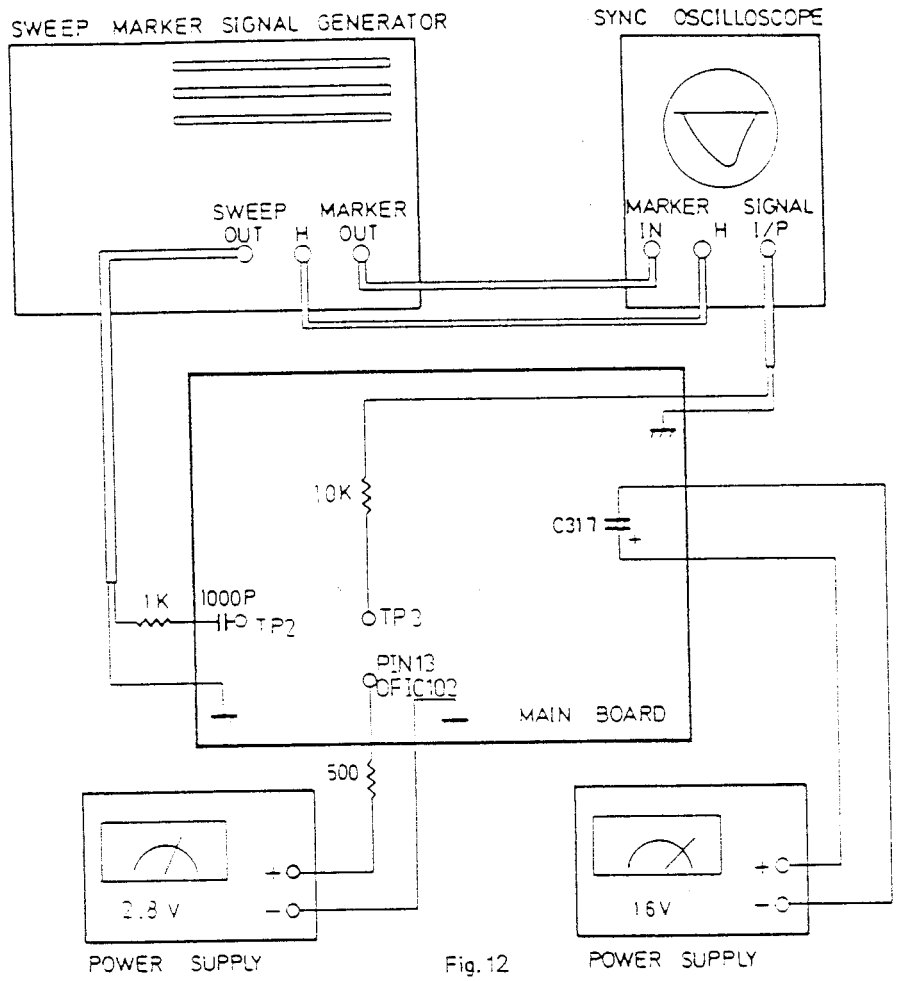
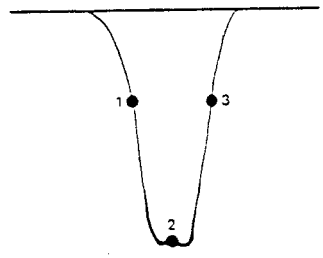

Fig.12
Fig.13 P.I.F. Response Curve
- (1) Connect the signal output of sweep/marker generator in series to TP2 (C131) through 1 Kohm resistor and 1000PF capacitor (see Fig. 12).
- (2) Connect the vertical input terminal of an sync. oscilloscope in series with a 10 Kohm resistor to TP3.
- (3) Apply a + 16V DC across C317 on Main Board and connect a 1 Kohm resistor across IC101 Pin 14 and B+12V.
- (4) Apply a +2.8V DC dummy AGC bias in series to Pin 13 of IC102 through 500 ohm resistor.
- (5) Connect a dummy resistor 100 ohm in parallel with R135.
- (6) Tune L112 for maximum amplitude of 31.4MHz.
- (7) Tune L111 for maximum amplitude of 33.4MHz.
- (8) Remove the 100 ohm dummy resistor.
- (9) Tune L113 for maximum amplitude of 32.4MHz.
- (10) Fine adjust L111, L112, L113 to obtain a wavefore as shown in Fig.13